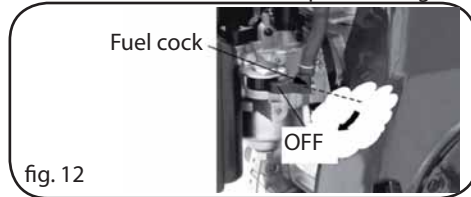

fig. 12
3. Set the fuel cock to the OFF position (Fig. 12).